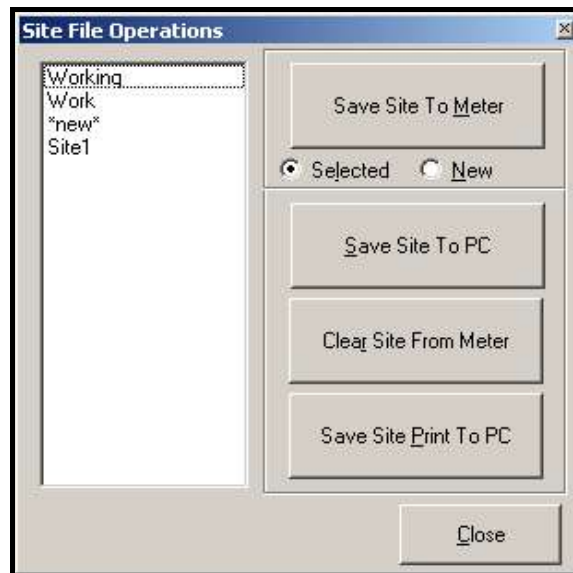

Figure C-14: Site File Operations Window
To access site files, click on the *Site Files* button in the *Properties* window. The *Site File Operations* window (shown in Figure C-14 below) opens.
1. Highlight the desired site in the left pane. (See Figure C-14 on page C-9.)
1. Highlight the site in the left pane. (See Figure C-14 on page C-9.)